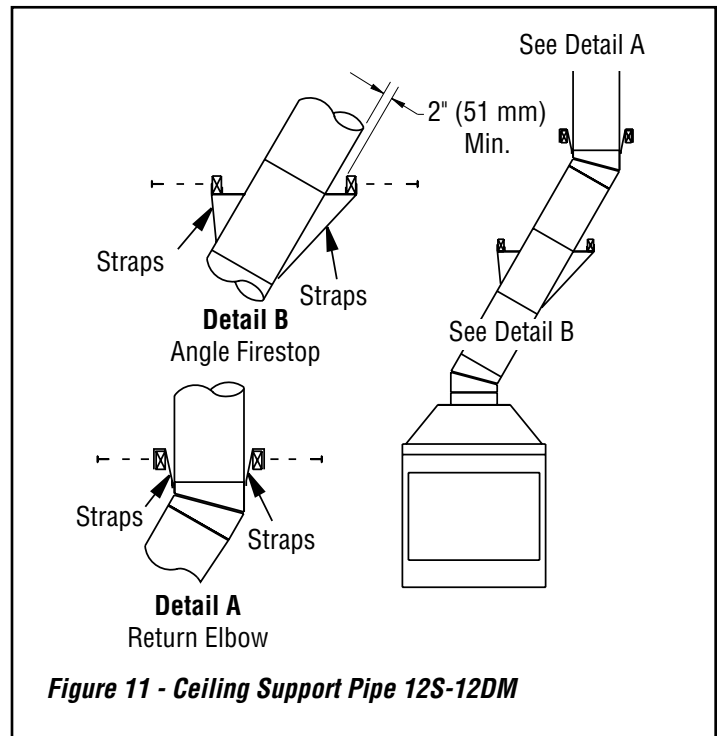

Figure 11 - Ceiling Support Pipe 12S-12DM
2. Chimney weight above offset rests on return elbow. Straps must be securely nailed to rafters or joists (*see Figure 11, details A and B*).